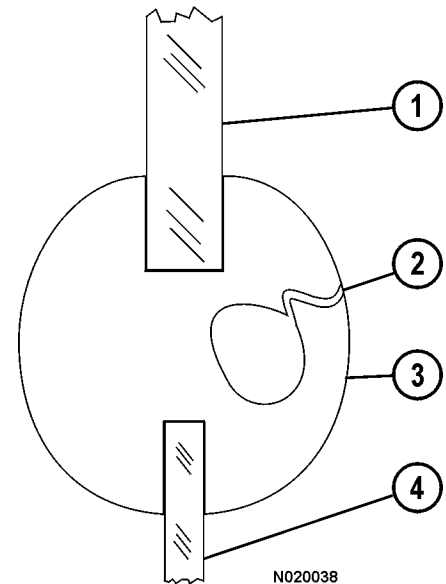

FIGURE 2-19. FRONT WINDSHIELD
2. Starting at the lower center of the glass, pull out weatherstrip locking lip (2, Figure 2-19 or 2-20). Use a non-oily rubber lubricant and a screwdriver to release the locking lip.
3. Remove glass (1) from weatherstrip (3) by pushing it out from inside the cab.
- a. Install weatherstrip (3, Figure 2-19 or 2-20) around the window opening. Start with one end of the weatherstrip at the center, lower part of the window opening and press the weatherstrip over the edge of the opening.